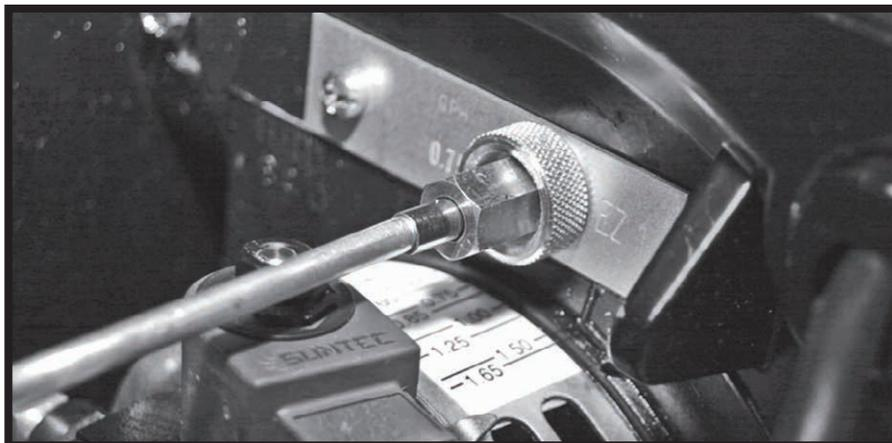

FIGURE 2B: OIL LINE FITTING
2. Unscrew the oil line fitting and thumb nut at the burner housing. (Figure 2B)